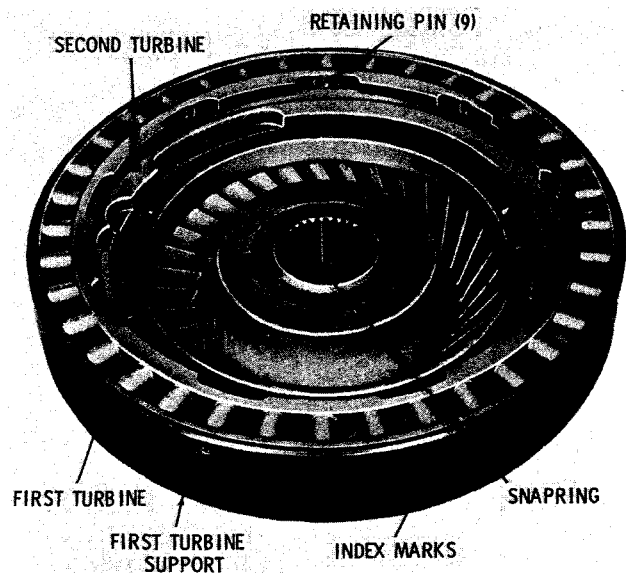

Fig. 6-6. First-and-second turbine assembly
(1) Locate the index marks (V-groove) in the outer rims of the first turbine support and the first turbine (fig. 6-6). Make sure the index marks are well defined in both parts. If these marks are not prominent, deepen them to 0.040 inch (1 mm) maximum before disassembly.
(2) Drive the nine retaining pins inward (toward the hub) until they clear the holes in the first turbine support. Remove the first turbine from its support.
(7) Drive the nine retaining pins outward until they are flush to 0.030 inch (0.76 mm) below the outer surface of the first turbine support (fig. 6-6).